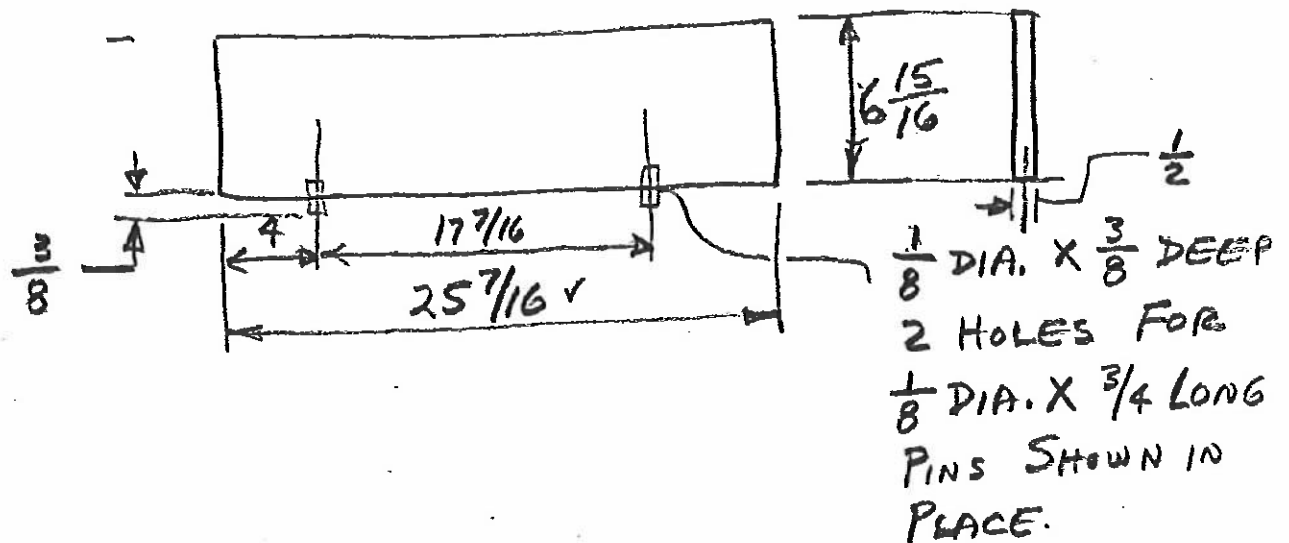

FIGURE 6
- FIG. 6 LOCKER PANEL ASSEMBLY